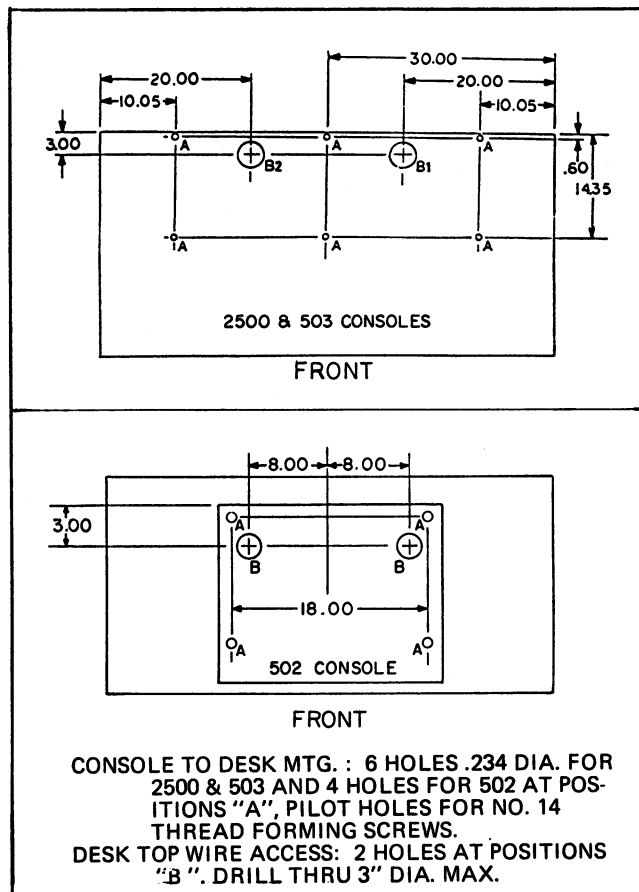

Figure 3 - Mounting and Wire Access Hole Pattern
To install the turret assembly, six mounting holes and two cable access holes must be drilled in the desk top. The top has a wood core with a laminated plastic cover, so a small electric drill (with wood bit) or brace and auger bit may be used. See Figure 3.
1. Drill two, 2- to 3-inch cable access holes - B1, B2 in Figure 3 - in the desk top.
6. Using the turret cabinet as a template, or the drill plan, Figure 3, mark the six mounting hole positions. The holes are located on the bottom braces of the turret.